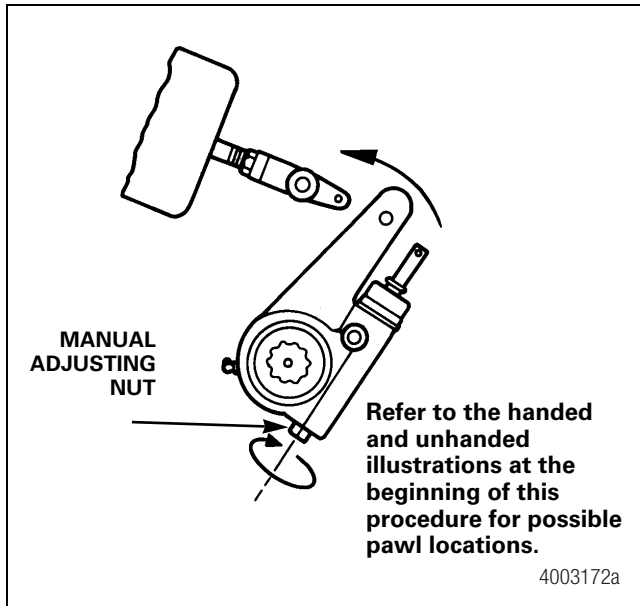

Figure 5.2
3. Rotate the slack adjuster manual adjusting nut CLOCKWISE to align the holes in the slack with the holes in the push rod clevis. Figure 5.2.